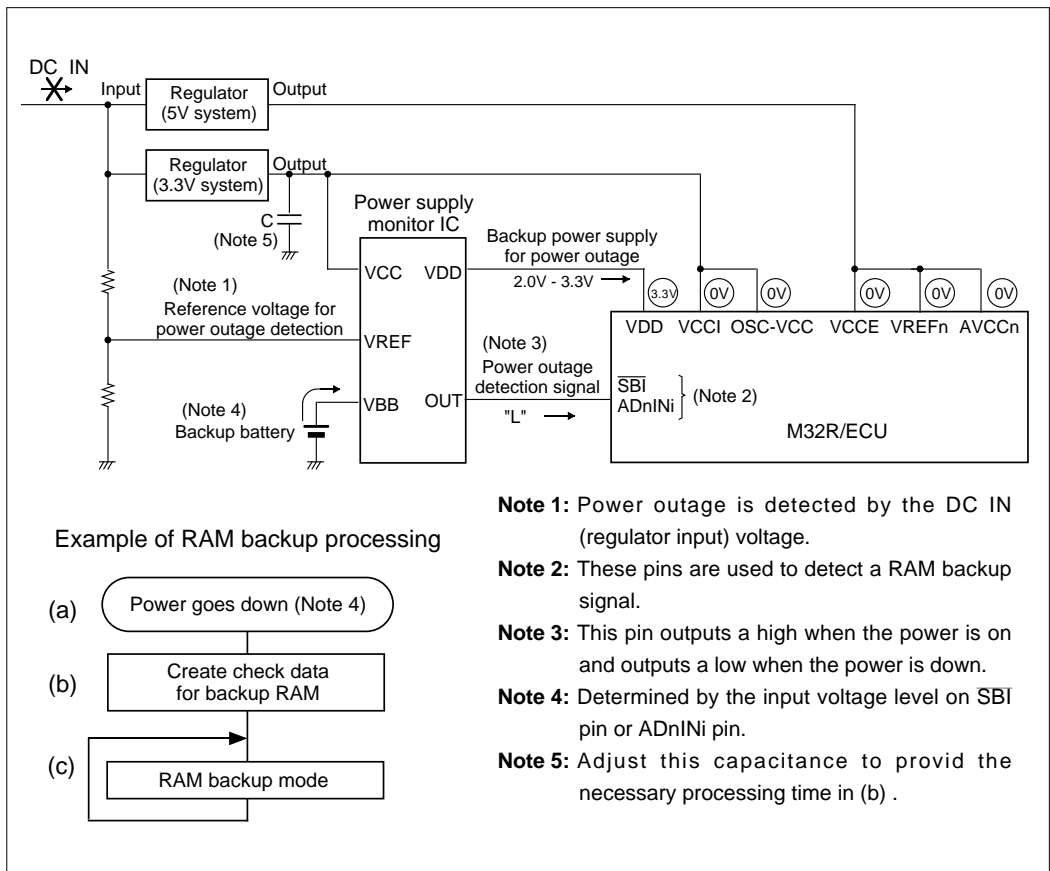

Figure 17.2.3 RAM Backup State at Power Outage
Shown in Figure 17.2.3 is the power outage RAM backup state of the M32R/ECU. When the power supply goes down, the power supply monitor IC starts feeding current from the backup battery to the M32R/ECU. Also, the power supply monitor IC's power outage detection pin outputs a low, causing the  $\overline{\text{SBI}}$  pin or ADnINi pin input to go low, which generates a RAM backup signal ((a) in Figure 17.2.3). Whether the power is down or not must be determined with respect to the DC IN (regulator input) voltage in order to allow for a software processing time at power outage.
- (1) Create check data to verify after returning from RAM backup to normal mode whether the RAM data has been retained normally ((b) in Figure 17.2.3).
When the power supply to VCC goes down after settings in (1), the voltage applied to the VDD pin becomes 2.0-3.3 V and voltages applied to all other pins drop to 0 V, and the M32R/ECU thereby enters RAM backup mode ((c) in Figure 17.2.3).
Due to settings in (1) to (3), the voltage applied to the VDD pin becomes  $3.3\text{ V} \pm 10\%$  and voltages applied to all other pins drop to 0 V, thus placing the M32R/ECU in RAM backup mode ((d) in Figure 17.2.3).